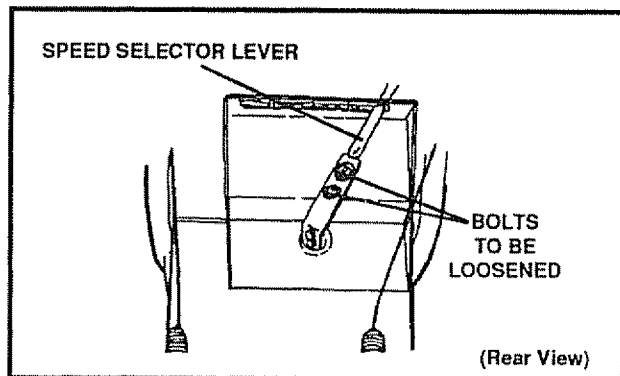

FIG. 31B
- Loosen bolts in speed selector lever (See Fig. 31B)